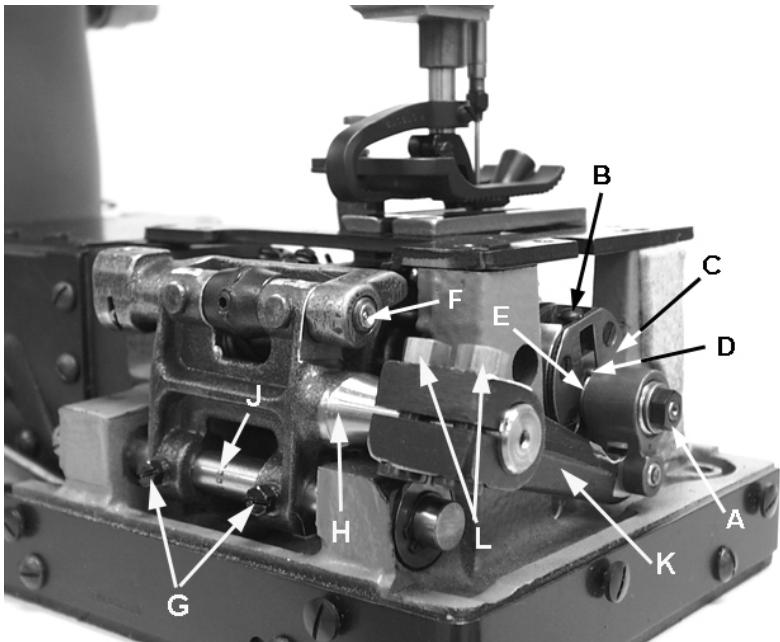

Fig 12
Right to left adjustment can be made by loosening screws (G, Fig. 12) and slightly move feed rocker (H) on feed rocker shaft (J) as required, then retighten screws. Check to ensure that feed rocker arm (K) does not bind after adjustment.
Forward or rearward centering of feed dog can be accomplished by loosening nuts (L, Fig. 12), move feed rocker (H) as required and retighten nut.
Set the stitch to required length. This is accomplished by loosening lock nut (A, Fig.12) 1/2 turn, (it has a left hand thread) on the end of the stitch regulating stud and turning stitch adjusting screw (B) located under the left end of the cloth plate in the head of the mainshaft (C), which is marked with "L" and "S". Turning the screw in a clockwise direction shortens the stitch (moves stitch regulating stud toward the "S") and turning it in a counterclockwise direction lengthens the stitch (moves stitch regulator stud toward the "L"). Retighten the lock nut securely. To prevent destructive damage to the feed drive bearing, key screw (D) must engage the "U" shaped key slot in ferrule (E).